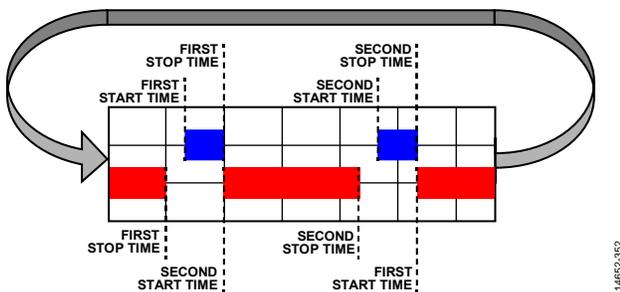

Figure 225. Naming Convention Used for TDD Start/Stop Description in the TES
The transceiver evaluation software (TES) TDD interface follows the convention where a subframe (or group of subframes) is enabled at the end and loops back to the beginning of a frame border. The subframe (or group of subframes) beginning is marked at the end of a single frame. Figure 225 shows the naming conventions used in the TES.
- The **First Rx1 Time**[ $\mu$ s] field determines the beginning and end of the first Rx1 subframes (or group of subframes). It follows the same convention as described in Figure 225.